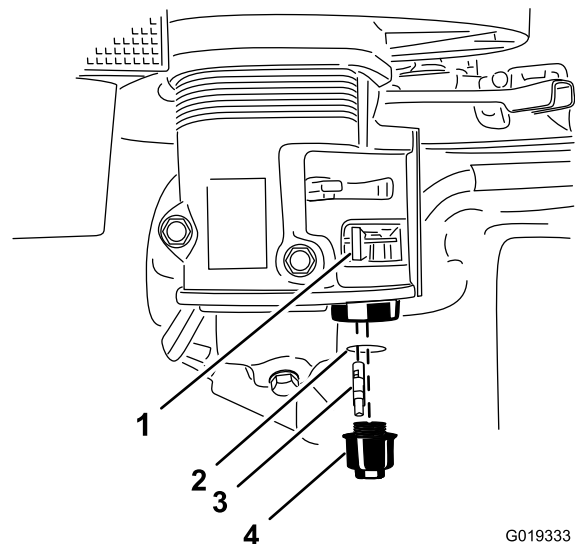

Figure 53
3. Move the lever of the fuel valve to the Off position, all the way to the left (Figure 53).
4. Unscrew the sediment cup (Figure 53).
5. Remove the fuel filter and O-ring (Figure 53).
8. Install the fuel filter in the bottom of the carburetor (Figure 53).